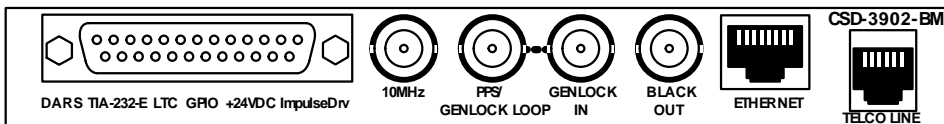

Figure 1-3. CSD-3902-BM Back Module
- The CSD-3902-BM back module connections are shown in Figure 1-3.